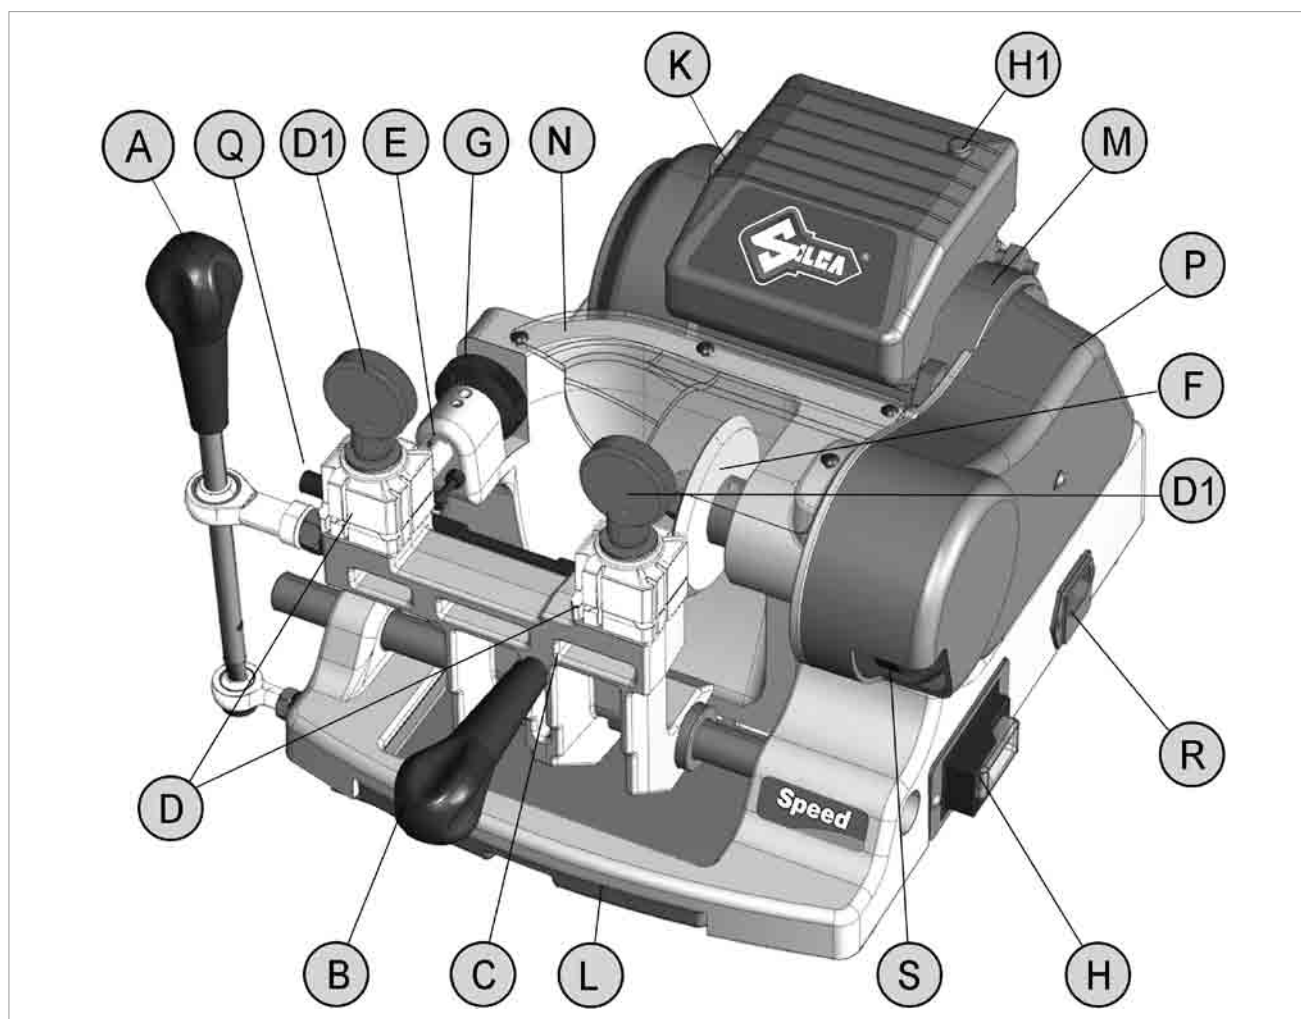

Fig.5
Motor transmission takes place by belt. On the right-hand side of the motor there is the transmission shaft which moves the cutting tool (F) and the brush (S) (see Fig.5). These components are protected by:
- cutting tool cover (N)
- brush cover (P)